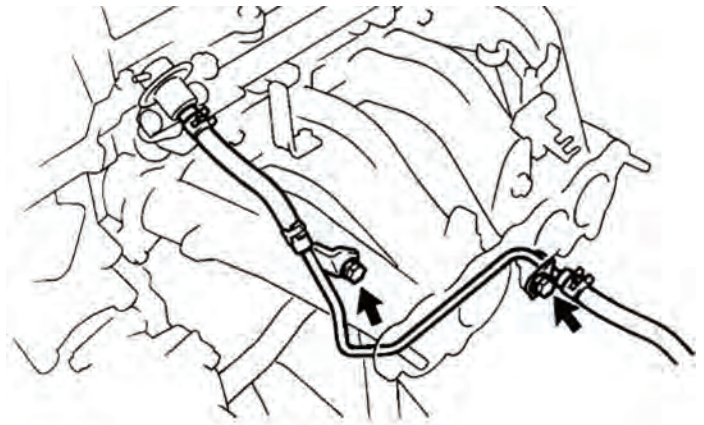

Figure 9
24. Remove the 2 bolts from the fuel return pipe and disconnect the fuel return hose from fuel pressure regulator. See Figure 9. Caution: Plug fuel return hose so that no fuel will spill. Set pipe and hose aside.